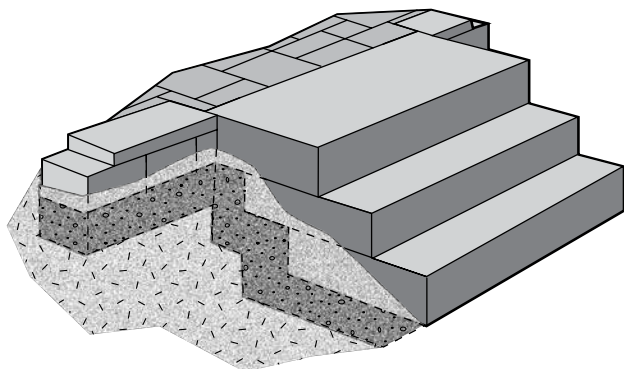

Figure 49. Siena Stone® coping unit steps.
**Large coping unit steps** - These structures are basically constructed with coping units from large wall systems. After the first riser is placed with a single coping unit, the granular material at the back of the first step is placed at the same top elevation after compaction. The second riser is then positioned so the face of the next coping unit is in contact with the back of the coping stone on the lower step. Repeat the previous stages to finish the steps as required. All proper back-fill and compaction procedures must be followed (Figure 49).